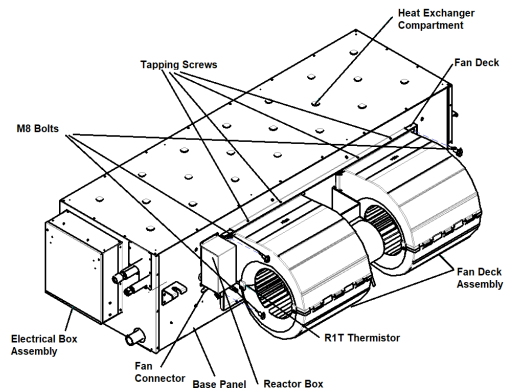

Fig. 21
- 4) Carefully disconnect the fan motor wiring from the base panel located underneath the reactor box. (Fig 21).
- 5) Remove the (4) tapping screws located above the fan deck flange. (Fig 21).
- 6) Remove (4) M8 bolts securing the fan deck to the base panel of the heat exchanger compartment (Fig 21).
- 7) Carefully separate the fan deck assembly from the base panel, taking care not to damage the fan motor wiring. (Fig 21).
- 8) Carefully detach the fan deck. (Fig 21).
- 9) Carefully place the fan deck back in position to the base panel. (Fig 21).
- 10) Secure the fan deck onto the heat exchanger compartment with the (4) M8 bolts and (4) tapping screws for the top flange of the fan deck. (Fig 21).